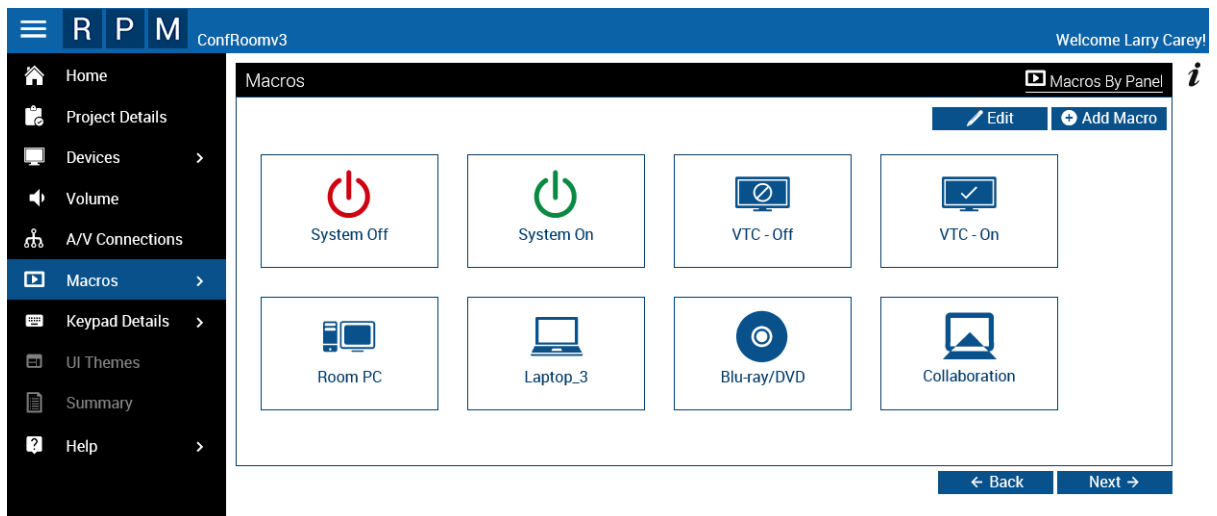

FIG. 31 Sample Macros page
7. Click **Next** to proceed to the *Macros* page (FIG. 31):